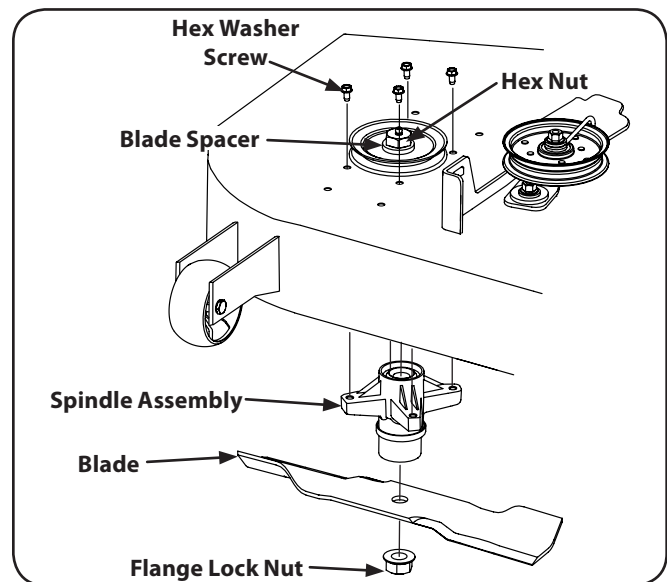

Figure 7-7
6. Using a wrench or socket ratchet remove four hex nuts, and the four hex head cap screws. Remove the spindle assembly. See Figure 7-7.